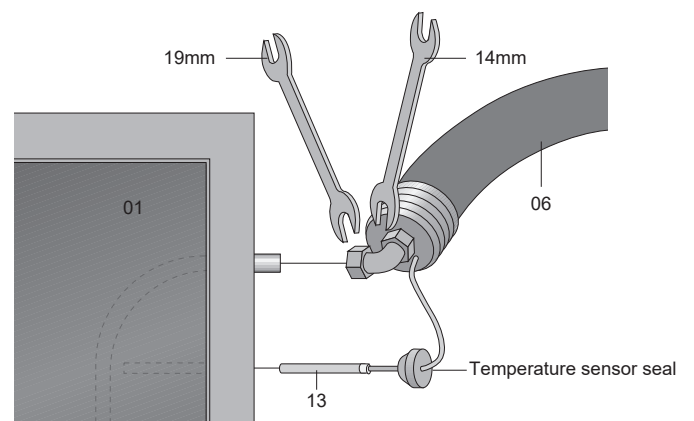

Figure 8-4: Connection of Temperature Sensor
Locate the solar collector temperature sensor (13) in the sensor pocket next to the Outlet (flow) connection of the collector array, as shown in Figure 8-4.
6. Refer to Figure 8-4. Take the temperature sensor seal out of the solar collector hole next to the outlet (flow) connection, pierce the centre and push it over the temperature sensor. Finally, guide the temperature sensor fully into the sensor pocket of the solar collector and seal by re-inserting the temperature sensor seal.